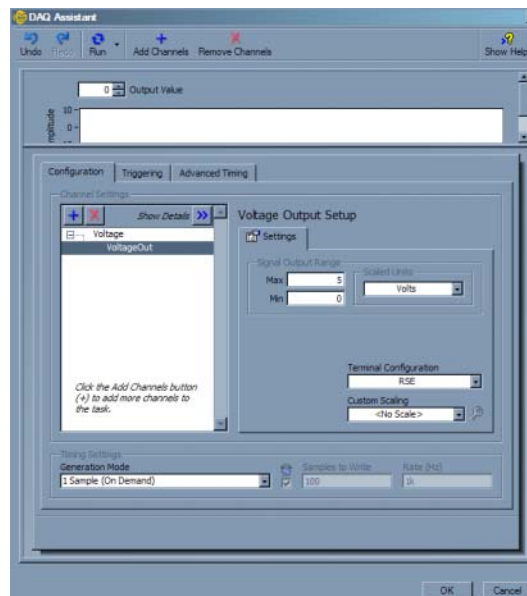

Figure 3: USB-6211 Configuration screen
Step 3: Referring to Figure 3 below, configure the analog output for minimum and maximum voltages of 0 and 5 Volts respectively. Select the “1 Sample (On Demand)” option. Click OK.